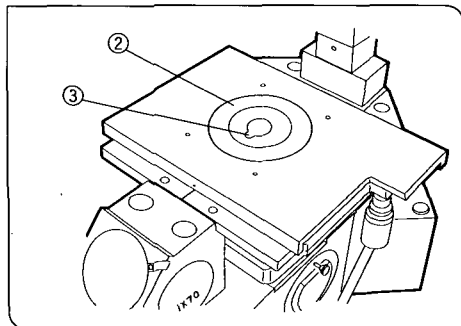

Fig. 12
- 3. Insert the stage insert plate ② into the stage. (Fig. 12)
- ⊙ To facilitate confirmation of the objective front lens position and application of oil for oil immersion objectives, rotate the stage insert plate so that the keyhole ③ will be facing the front. (Fig. 12)